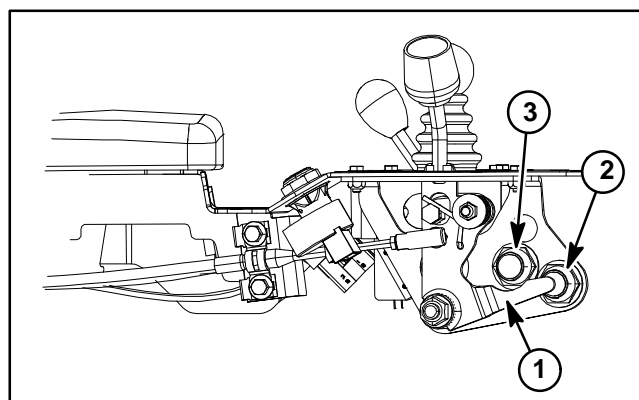

Figure 57
The neutral and mow switches are normally open proximity switches that mount to the console assembly (Fig. 57). The sensing plate for these switches is a tab on the functional control lever. The Toro Electronic Controller (TEC) monitors the operation of the neutral and mow switches.
3. Remove console cover from console assembly to gain access to neutral and mow switches (see Control Console Disassembly in the Service and Repairs section of Chapter 7 – Chassis). Locate switch that is to be tested (Fig. 57).